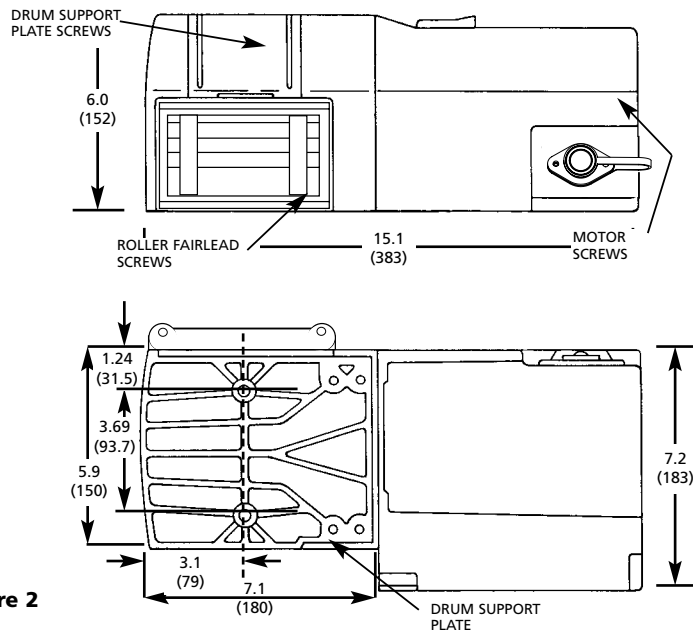

Figure 2
** All loads shown are for single-line operation. Double-line operation with optional pulley block (see Figure 2) approximately doubles capacity of winch.